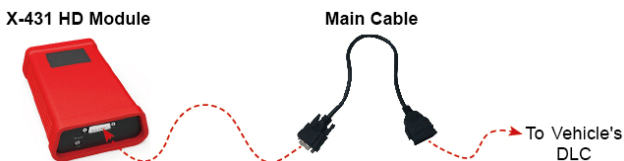

Fig. 5-2
2. Connect one end of the diagnostic cable to the diagnostic socket, and then connect other end to the vehicle's DLC (For non-16 pin DLC, you need to choose the corresponding diagnostic connector). See Fig. 5-2.